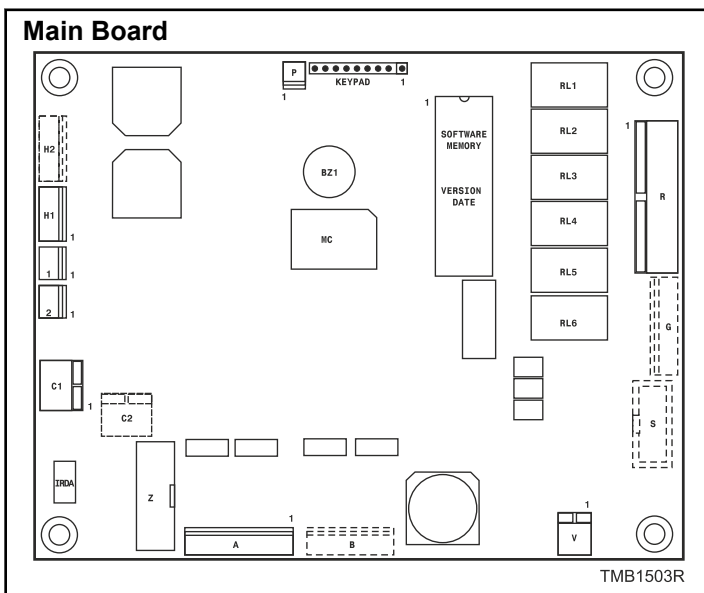

Figure 7
5. Make sure to put the new chip in the correct position. Refer to *Figure 7*